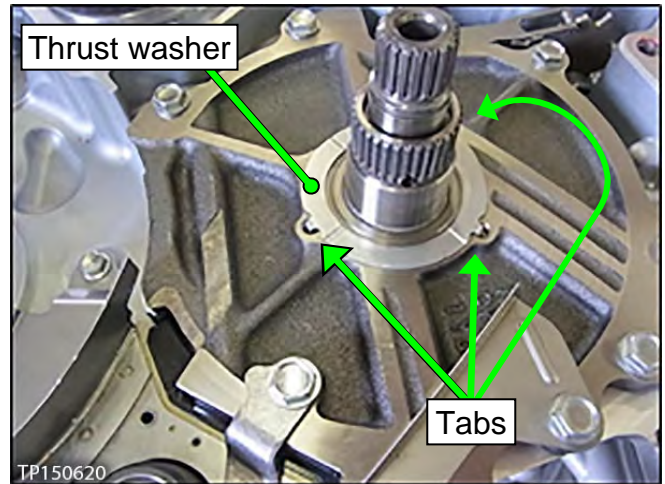

Figure 71
8. Install the thrust washer onto the dummy cover (Figure 71).